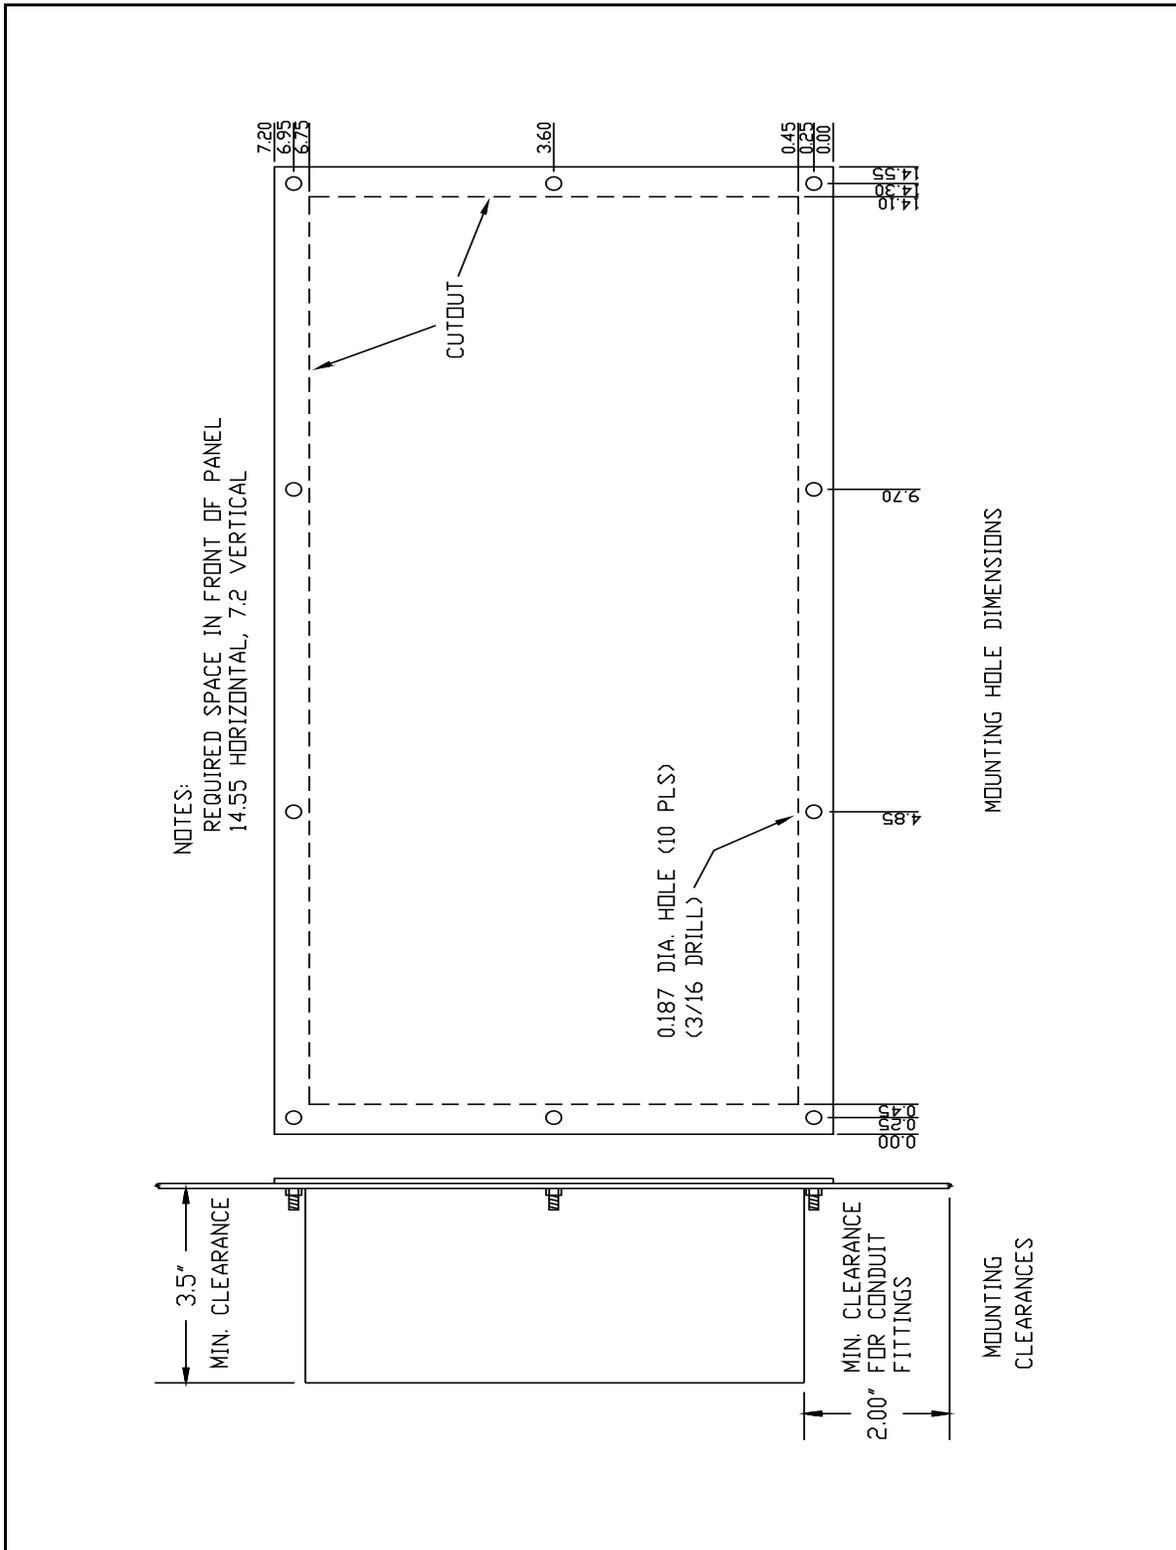

Figure 18. System 1100 Remote OIT Mounting Dimensions.
- 4) Place the hardened drill fixture provided with the direct mounting strain link kit in position adjacent to the scribed line and use a no. 3 drill to drill a 5/8" deep hole through the center hole position of the drill fixture. Tap the hole for a 1/4 x 28 thread. Bolt the drill fixture securely to the mounting area, as shown in Figure 18.